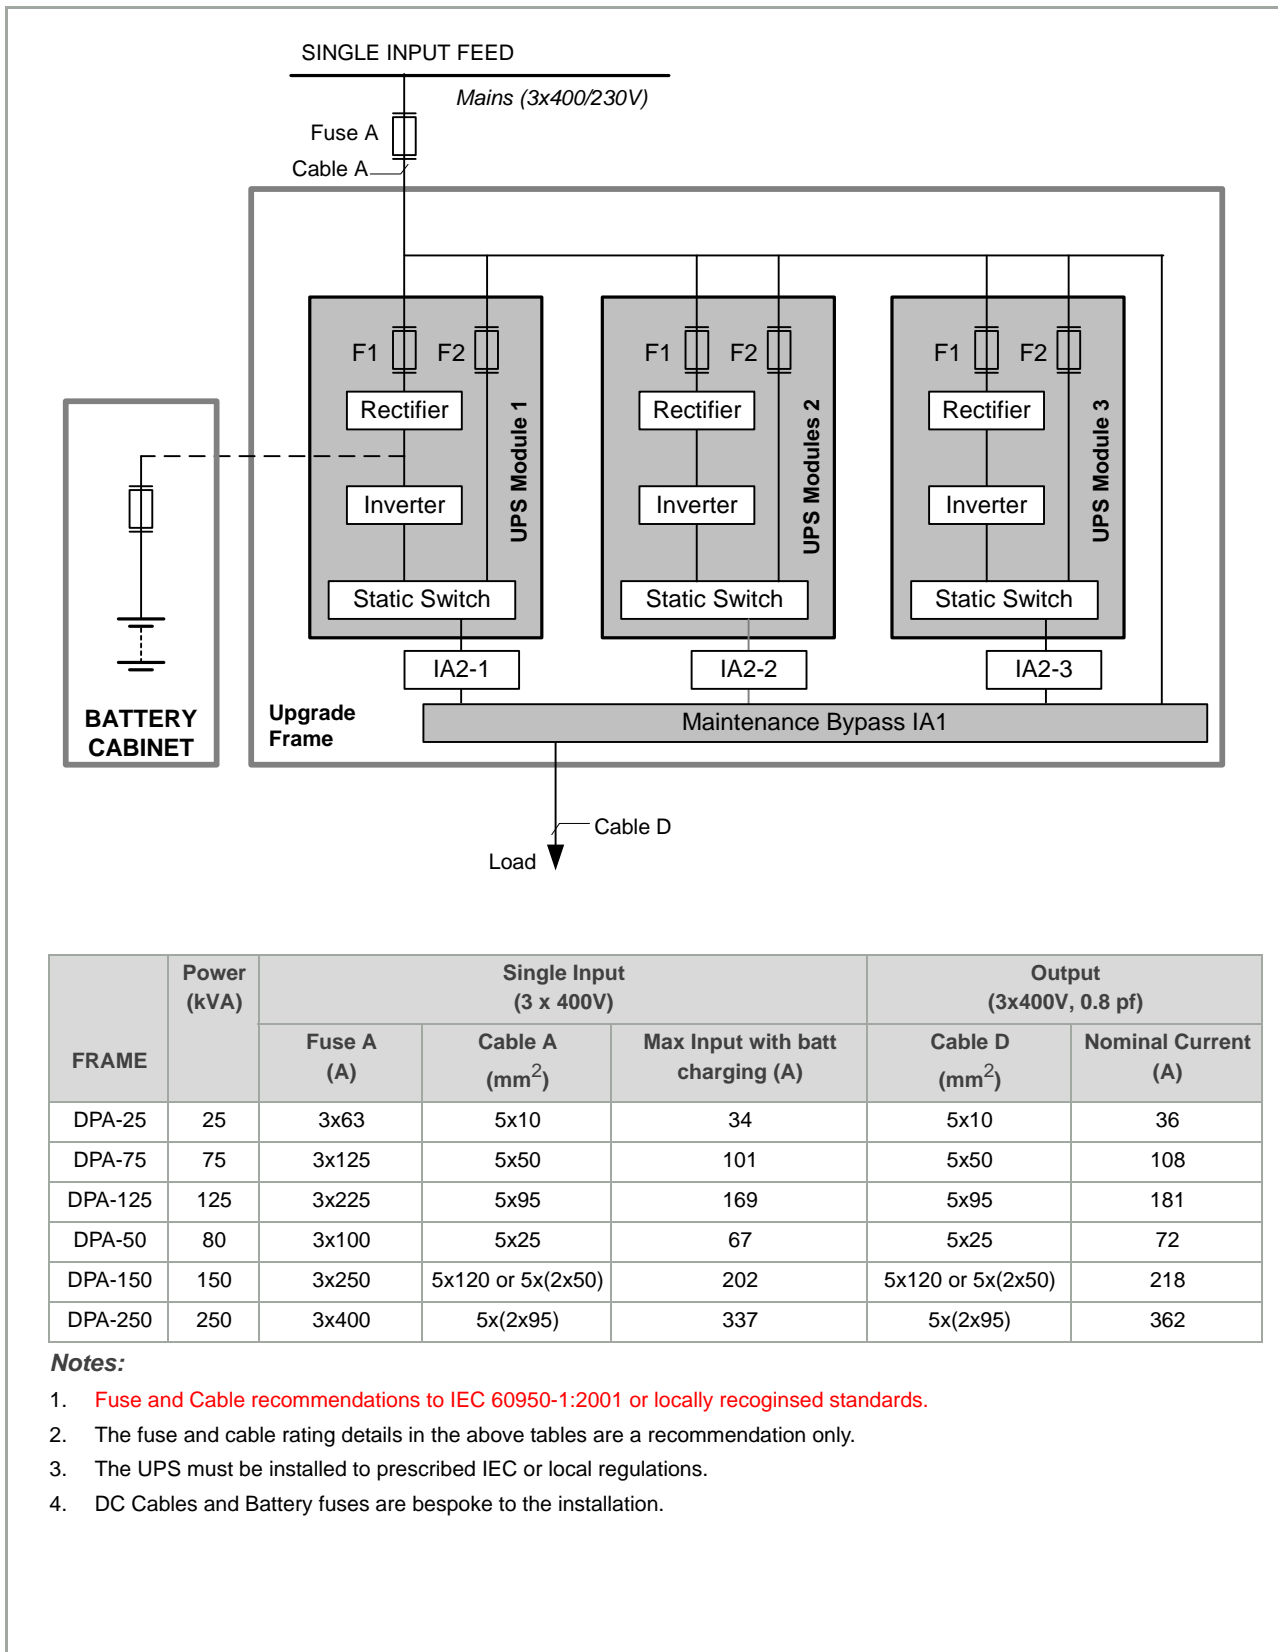

Figure 3.5 Single input block diagram with cable and fuse sizing
- Ensure that the provided fuses and cables satisfy the ratings shown in Figures 3.5 and 3.6, and are in accordance with the prescribed IEC Standards or local regulations.
Refer to the schematic drawing and connection table shown in Figure 3.5.